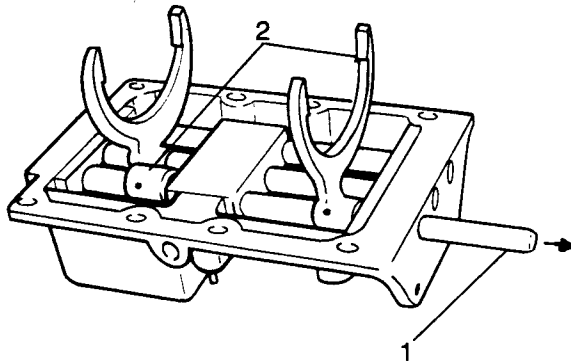

Fig H1.119
- (6) Refer to Fig H1.119. Remove the 1st and 2nd gear selector shaft (1) sliding it backwards and then take out the two forks (2).